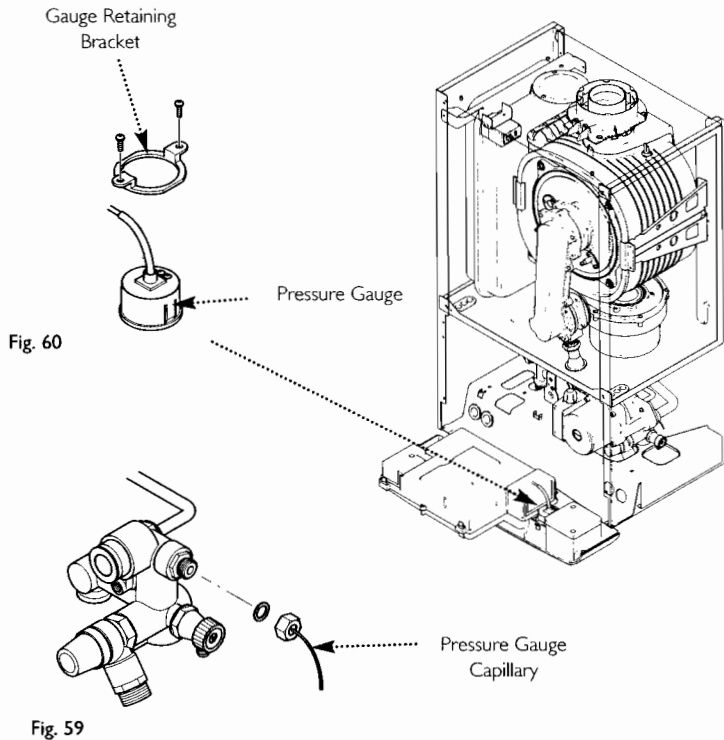

Fig. 59
12.16 Pressure Gauge (Figs. 59 & 60)